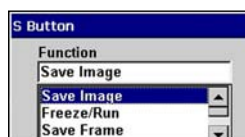

Figure 5-64 Sample S Button dialog box
2. Press **Y/✓** to open the drop-down list (Figure 5-64).